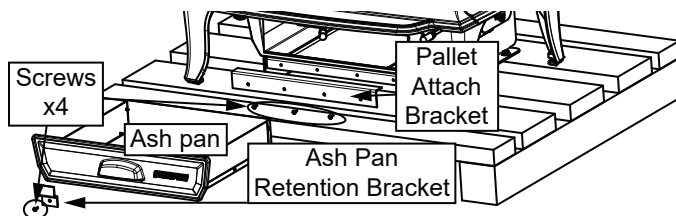

Figure 6.1
2. Using a Phillips screw driver, remove and discard the 4 screws and ash pan retention bracket from front of appliance (**Figure 6.1**).
3. Remove ash pan and set aside (**Figure 6.1**).
4. Remove and discard the pallet attach bracket (**Figure 6.1**).
7. Replace ash pan (**Figure 6.1**).